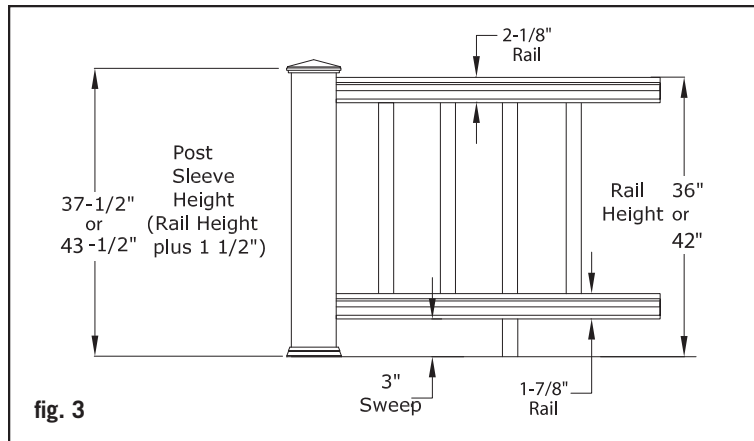

fig. 3
Step 5: Trim 4x4 post sleeves to length. Post sleeves should be a minimum of 1-1/2" longer than the railing height to accommodate a post cap (fig. 3). Example: For a 36" high railing, trim post sleeve to a minimum of 37-1/2"; can be left longer if desired. Slide a trimmed post sleeve over each 4x4 railing post. Slide a post base trim over each post sleeve.
Step 8: Assemble the lower inner rail and support block assembly. A support block is needed every 2' on-center. Check building codes for a maximum spacing between deck surface and bottom of rail (sweep). A 3" sweep is recommended, but can be more or less if codes allow (fig. 3). Trim support blocks to desired height and pre-drill 1/8" holes in the proper location. Holes must be centered on the inner rail for support blocks to fit properly. Using the support block connectors, fasten support blocks to the underside of the inner rail.
Step 11: Determine the length of the balusters (fig. 3). Fig. 3 illustrates how a 36" high railing might be sized. Starting with a 3" sweep + 2" for the bottom railing, 29" baluster height + 2" for the top rail = a 36" rail height. If these are the dimensions that you are going to use, cut the balusters to 29" length using a cut-off or miter saw. Use 35" balusters for 42" railings. If you want to have your railing at a different height, use fig. 3 as a planning tool to determine the height to cut the post sleeves and the balusters. **Note:** Use a fixture to ensure a consistent length (+/- 1/16"). Trim the balusters to the required length. Install balusters on each baluster connector. Gently tap the balusters with a rubber mallet to eliminate any gaps. Check for level end to end. **Tip:** Wrap painters tape around the back side of both posts and place balusters against the tape. The tape will balance the balusters in place until the upper rails are installed. Remove tape when upper rail is in place.